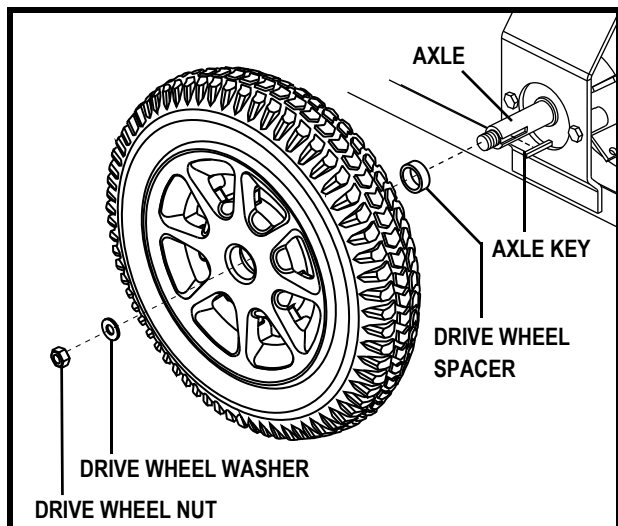

Figure 20. Drive Wheel Removal
4. Remove the drive wheel nut and washer from the axle. See figure 20.